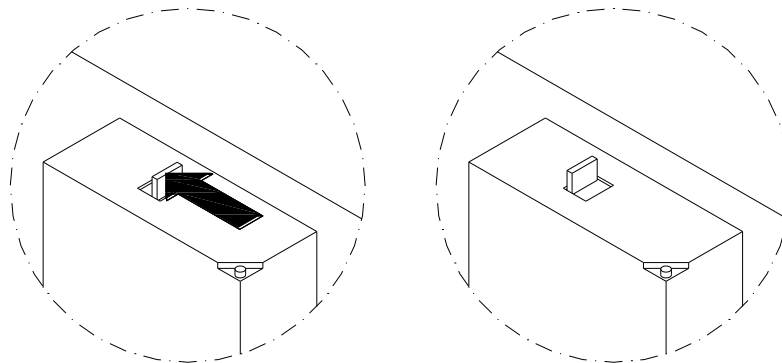

Figure 28 - Restoring the Monitoring Device
- restore the condition of proper functioning of the monitoring device as shown in Figure 28